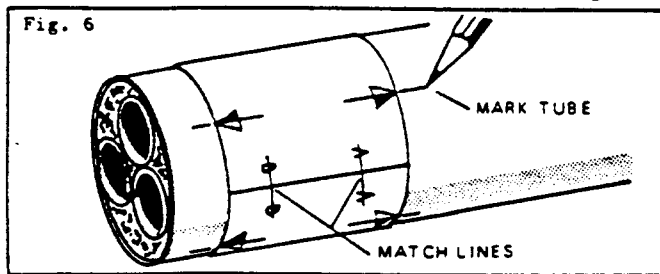

Fig. 6
(6) Using fine grit sandpaper round all edges of the fins except the root edge which attaches to the body tube. Sand this root edge until it is perfectly flat and even. Sand the sides of the fins until smooth.
(7) Cut out the fin spacing guide on the dotted lines. Wrap it around the rear of the body tube with the printing on the guide on the outside. Mark the body at the points indicated by the arrows. Connect the marks. See fig. 6.